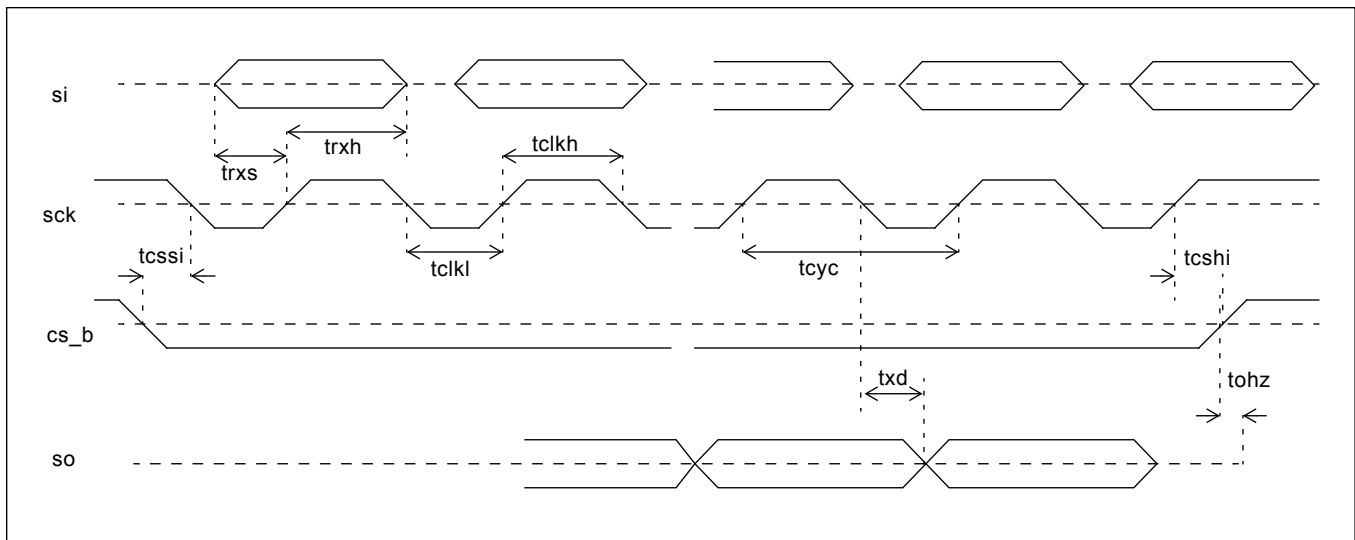

**Figure 32 - Output Timing Referenced To hpclkout0/clkout0**
**AC Electrical Characteristics\* - Outputs (see Figure 32).**